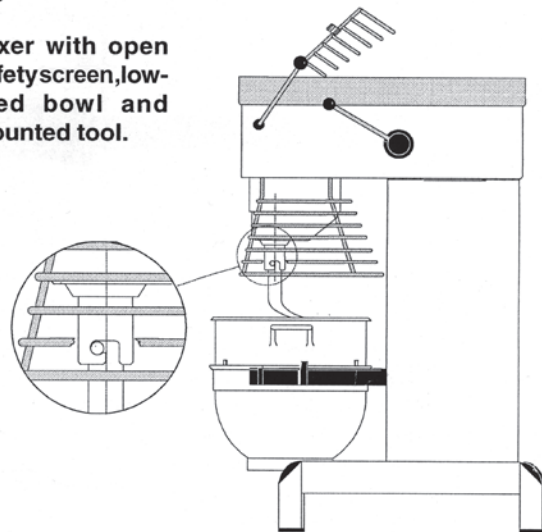

Fig. 3
- A) Open the bowl screen and place the bowl in the bowl arms. Note: The bowl arms must be in lowest position and the bowl must be pushed all the way into the bowl arms. (Fig.3).